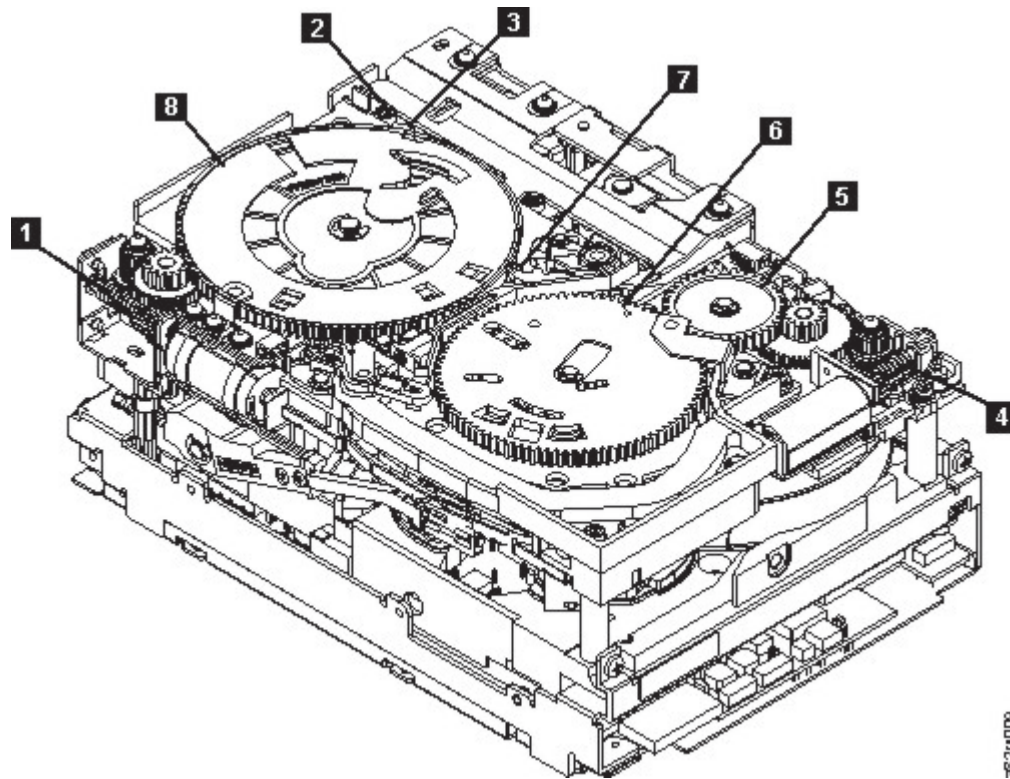
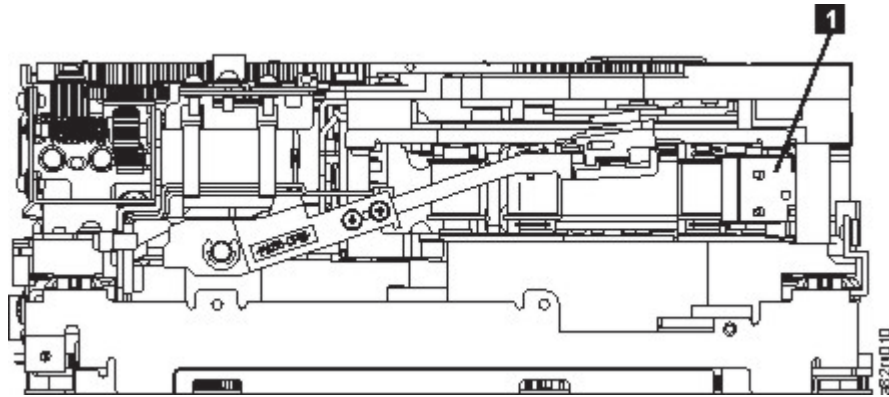

Figure 123. Drive with cover removed to reveal gear train.
Figure 124. Leader Block Assembly (LBA)
6. Locate the threader motor worm gear (4 in Figure 123 on page 248) on the rear of the drive. Use your finger to rotate the threader motor worm gear and slowly rotate the threader mechanism gear (6 in Figure 123 on page 248) clockwise.
- This action rotates the threader motor worm gear (4 in Figure 123 on page 248) clockwise, drawing the LBA into the cartridge.
7. As the tape leader block assembly (LBA) is secured in the cartridge, you hear the LBA retention spring clips click into place. If you do not hear the click, continue rolling until the threader motor worm gear (**4** in Figure 123 on page 248) stops. The LBA is in the correct position.
- Loader mechanism gear (**6** in Figure 123 on page 248) nearest the front of the drive that actuates the cartridge loader mechanism.
- Position of the rotate stub (**3** in Figure 123 on page 248).
- Front loader motor worm gear (**1** in Figure 123 on page 248). Rotating this gear allows the loader mechanism gear (**8** in Figure 123 on page 248) to turn.
9. Rotate the loader motor worm gear (**1** in Figure 123 on page 248) to turn the threader mechanism gear (**6** in Figure 123 on page 248) counterclockwise. Continue turning until the rotator stub (**3** in Figure 123 on page 248) loses contact with the lever (**7** in Figure 123 on page 248). This action releases the LBA leader pin.
10. Rotate the threader motor worm gear (**4** in Figure 123 on page 248) to turn the threader mechanism gear (**6** in Figure 123 on page 248) counterclockwise. This action moves the LBA out of the cartridge and past the read/write head. Stop this rotation when the LBA is near the tape guide roller nearest the rear of the drive that is shown as **1** Figure 124 on page 249.
11. Continue rotating the loader motor worm gear (1 in Figure 123 on page 248) until the rotator stub (3 in Figure 123 on page 248) is positioned as shown. Notice that the rotator stub (3 in Figure 123 on page 248) is nearly aligned with the cartridge loader tray guide bearing (2 in Figure 123 on page 248).